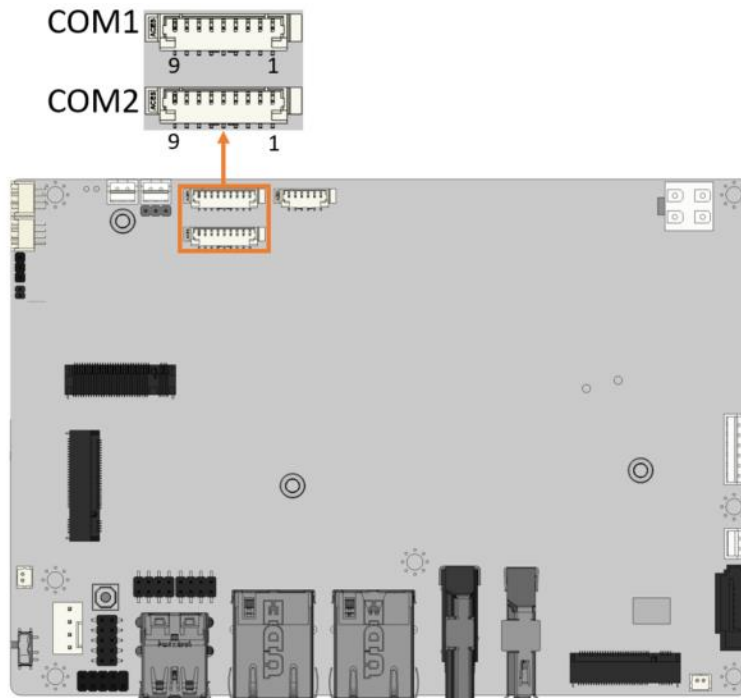

Figure 4-12: RS-232/422/485 Serial Port Connector Location
- CN Location:** See Figure 4-12